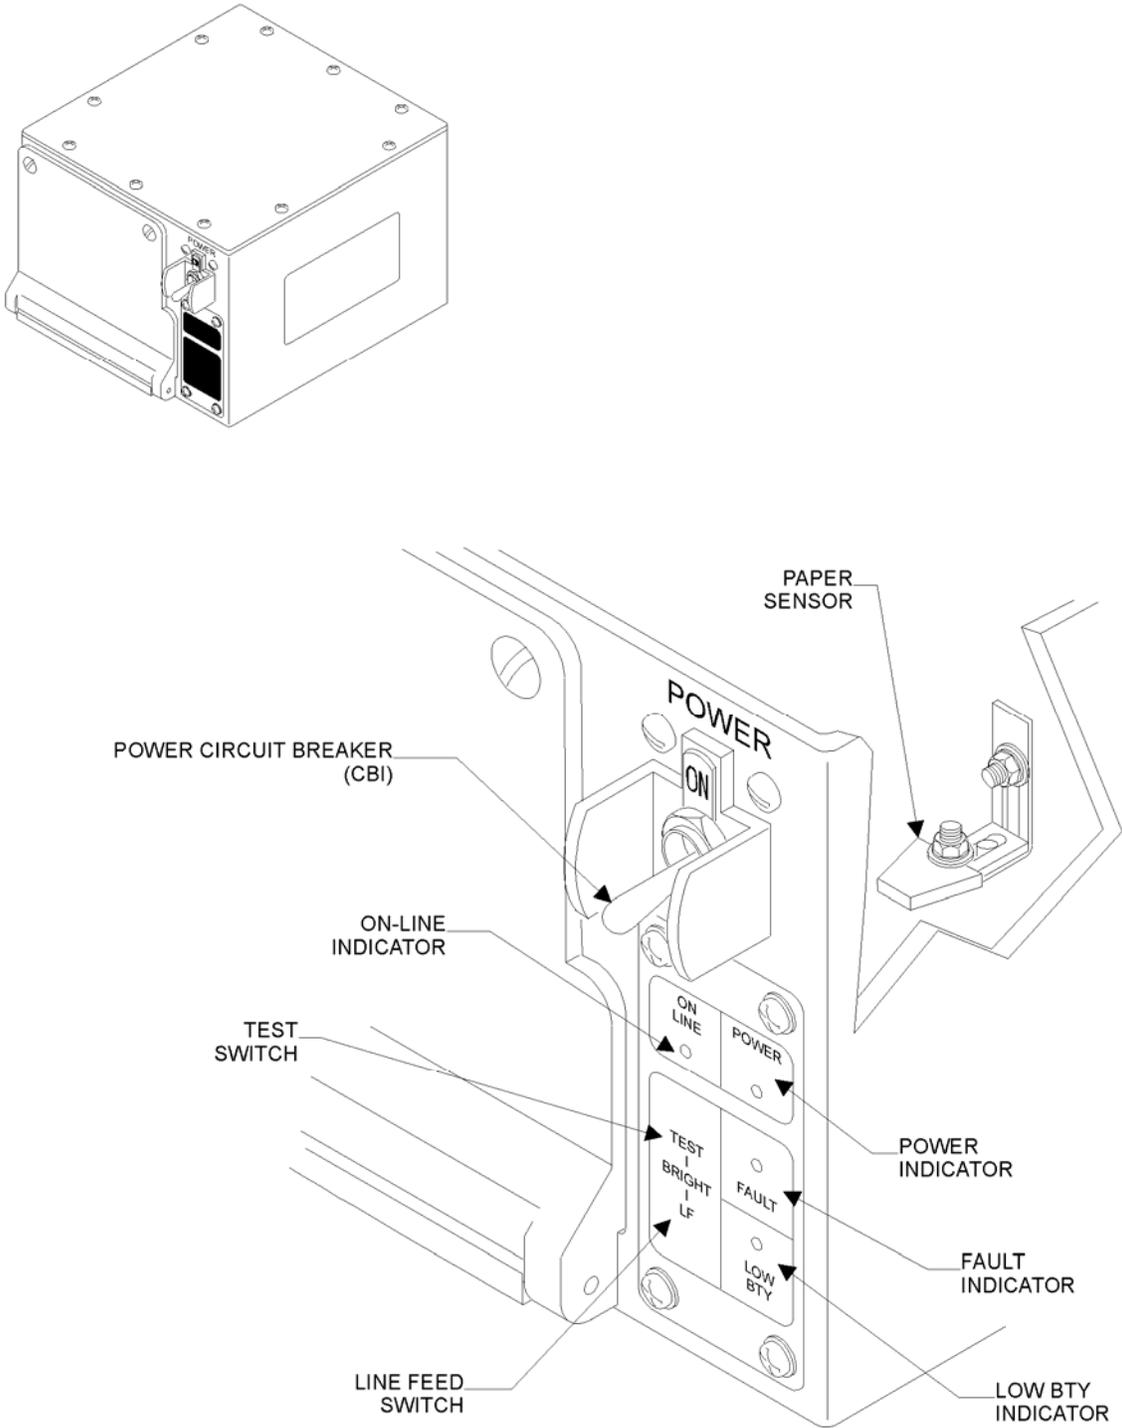

Figure 4-1. Controls and Indicators
All the switch/lights required for printer operation are on the control panel (Figure 4-1). Switch/lights are pressed to activate, and light to indicate activation. The switch-lights are SELF TEST and LINE FEED (LF). Table 4-1 describes the switch/indicators.
One nonoperator-controlled switch is contained in the printer (Figure 4-1). The nonoperator-controlled function of circuit breaker CB1 (switch) is to automatically deactivate input voltage to protect against power overloads. The switch is manually set to ON position to apply power to the printer. Refer to Table 4-1.
- Step 2. Set circuit breaker CB1 (Figure 4-1) to ON position.
- Step 3. Observe that POWER indicator (Figure 4-1) illuminates and printer performs built-in test (BIT) (approximately 1 minute). The printer will perform the following sequence of events:
- Step 1. Press LINE FEED (LF) switch-light (Figure 4-1) with power turned on (paragraph 4-4.1) and printer loaded with paper (paragraph 4-3.1).
- Step 2. Paper will advance continuously until LINE FEED (LF) switch-light is released.